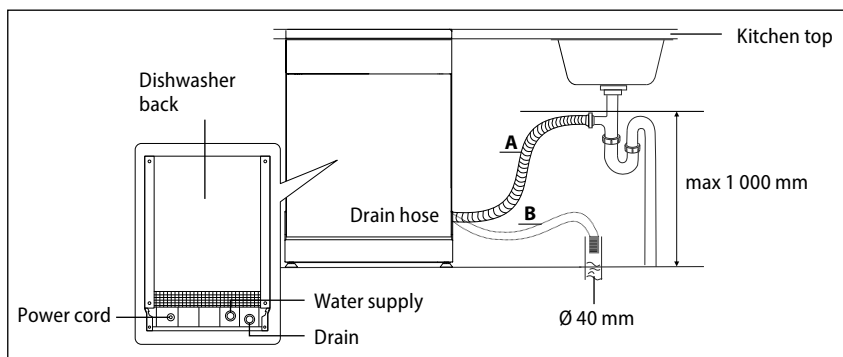

Fig. 19
5. Connect the drain hose according to Fig. 19.
Connect the drain hose to the waste pipe with a minimum diameter: 40 mm (Fig. 19). Make sure the drain hose is not bent or squeezed to prevent slowing down or stopping of the water flow. The height of the waste pipe must be less than 1,000 mm (Fig. 19) and the drain hose should not be submerged in water. Secure the drain hose properly to prevent unwanted loosening from the waste pipe.